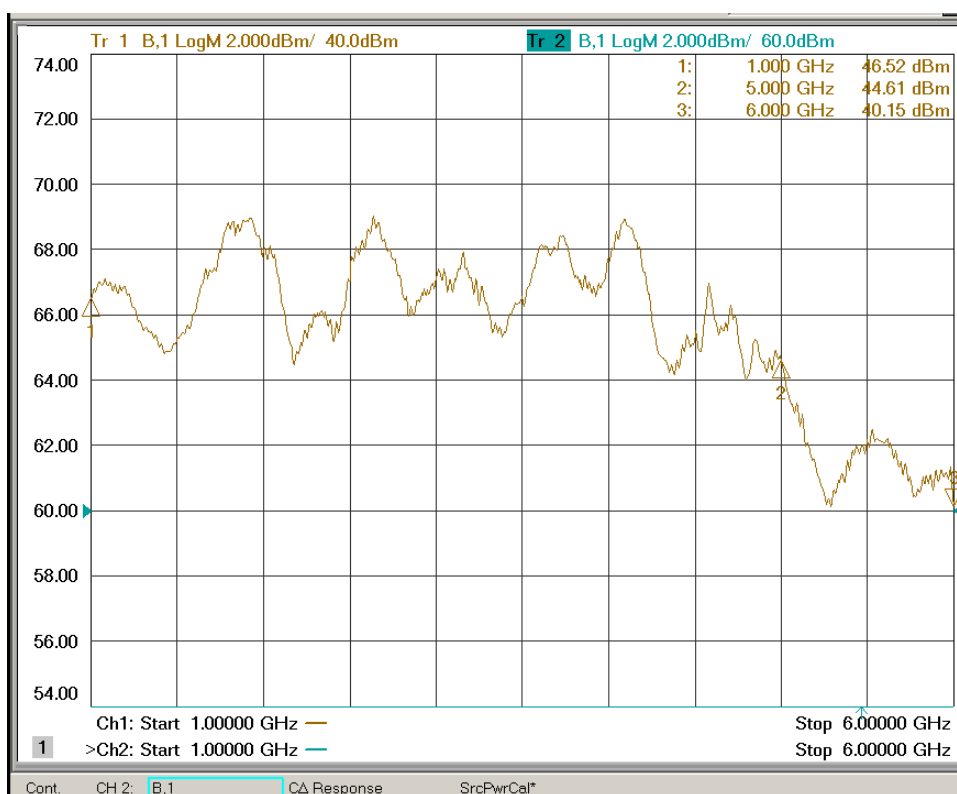
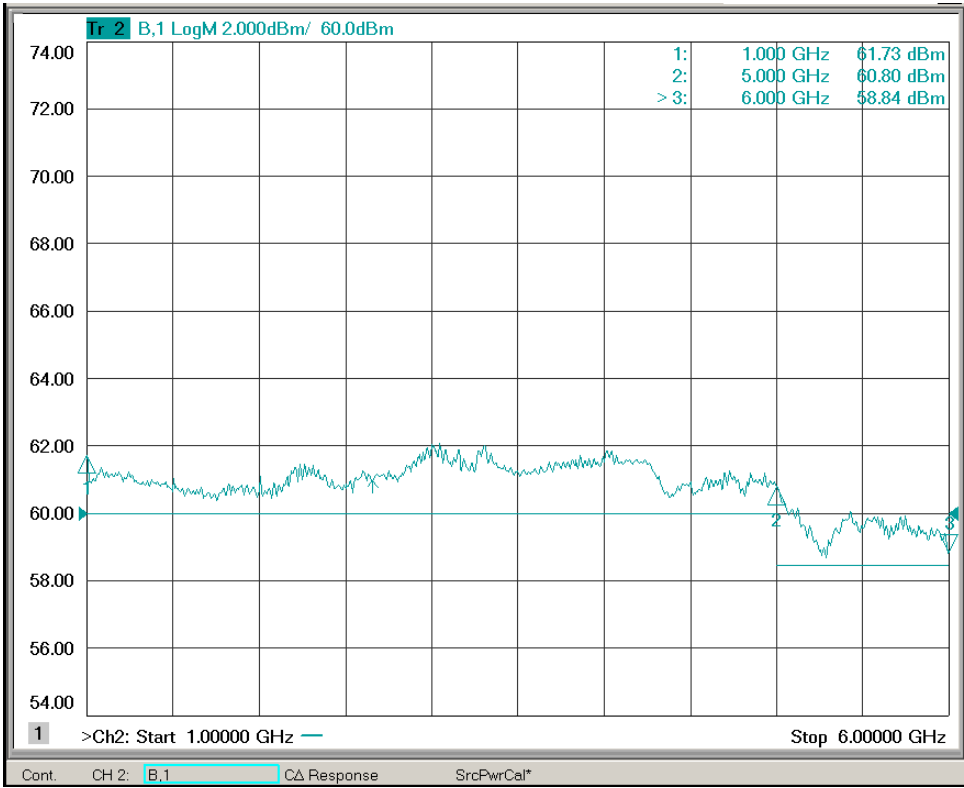

Figure 4-1. Typical Response at -20 dBm Input
Figure 4-2. Typical Response at 0 dBm Input
1. The Model 1000S1G6C's typical gain response at -20 dBm input and 0 dBm input is shown in Figures 4-1 and Figure 4-2. The actual gain may vary considerably from that shown in these figures but should be ≥ 63 dBm at -20 dBm input and ≥ 60 dBm from 1.0-5.0 GHz and ≥ 58.5 dBm from 5.0-6.0 GHz.